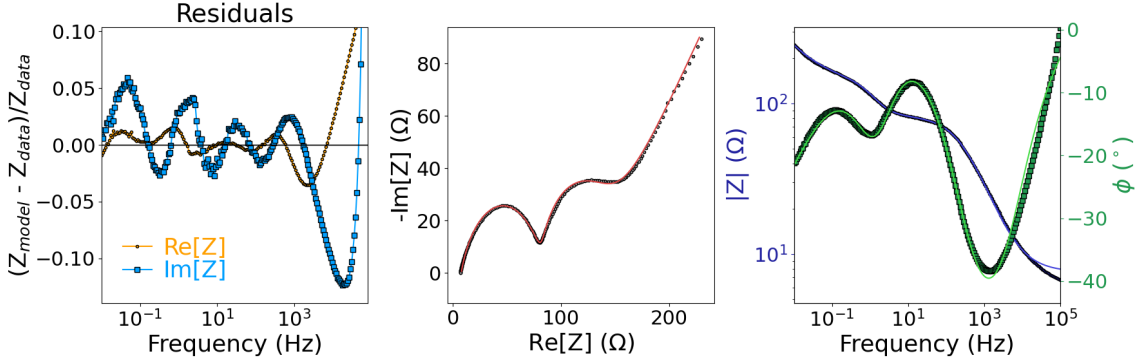

Figure 36: High-frequency refinement result.
16. Pressing **Refine solution** on the right results in Figure 36.